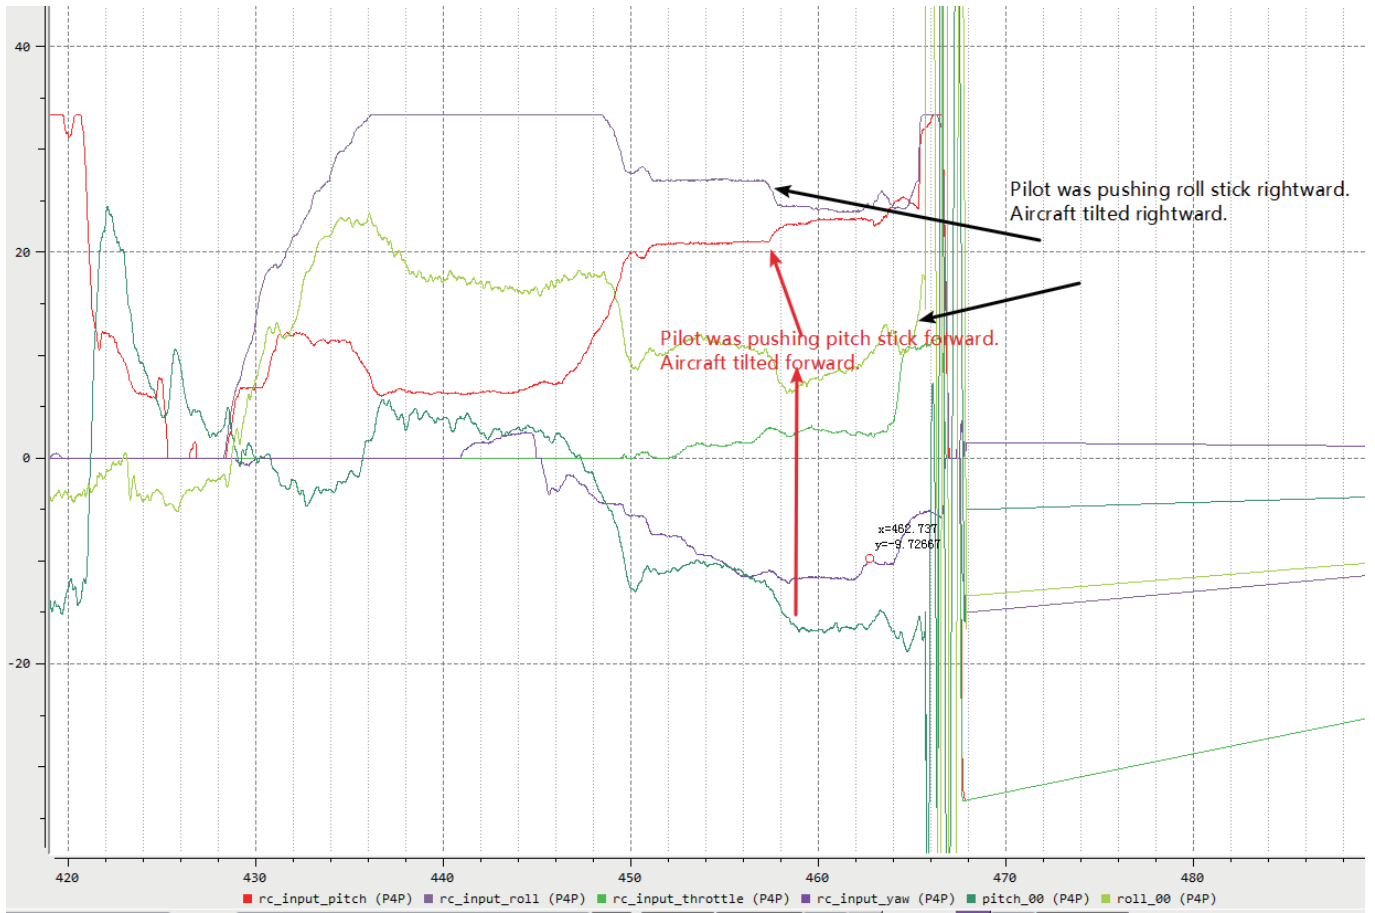

Figure 6.3
**Step 2:** From figure 6.3 & 6.4, we can tell that the drone responds to the control sticks' commands. It tilts forwards and rightwards (the attitude data values are negative, indicating that the drone tilts forwards) while flying to the north-east (the speed values in the north and east are positive and basically equal).